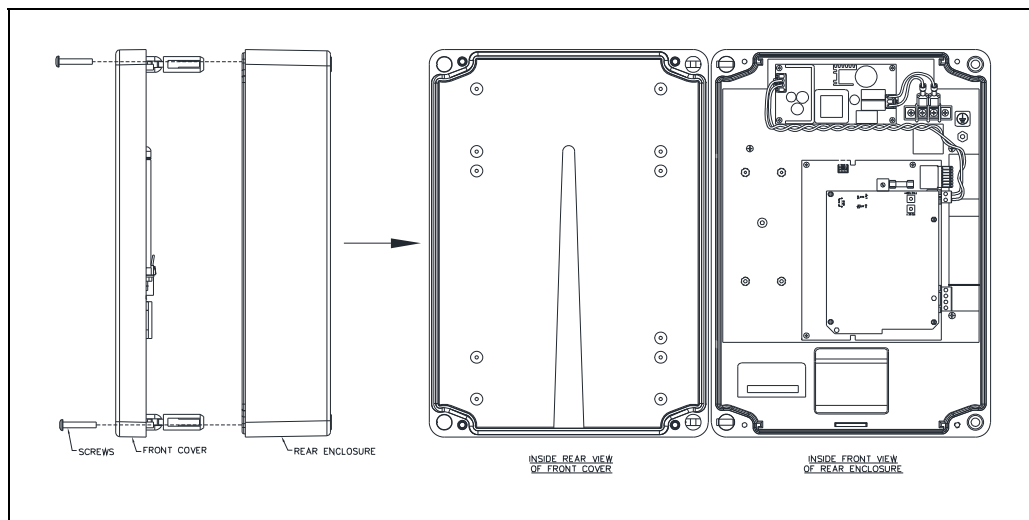

Figure 2: VoIP Amplifier Interface Assembly
1. Pull on the left side of the enclosure until the hinge pins pull loose to separate the front and rear sections (see Figure 2). Set the front of the enclosure aside.